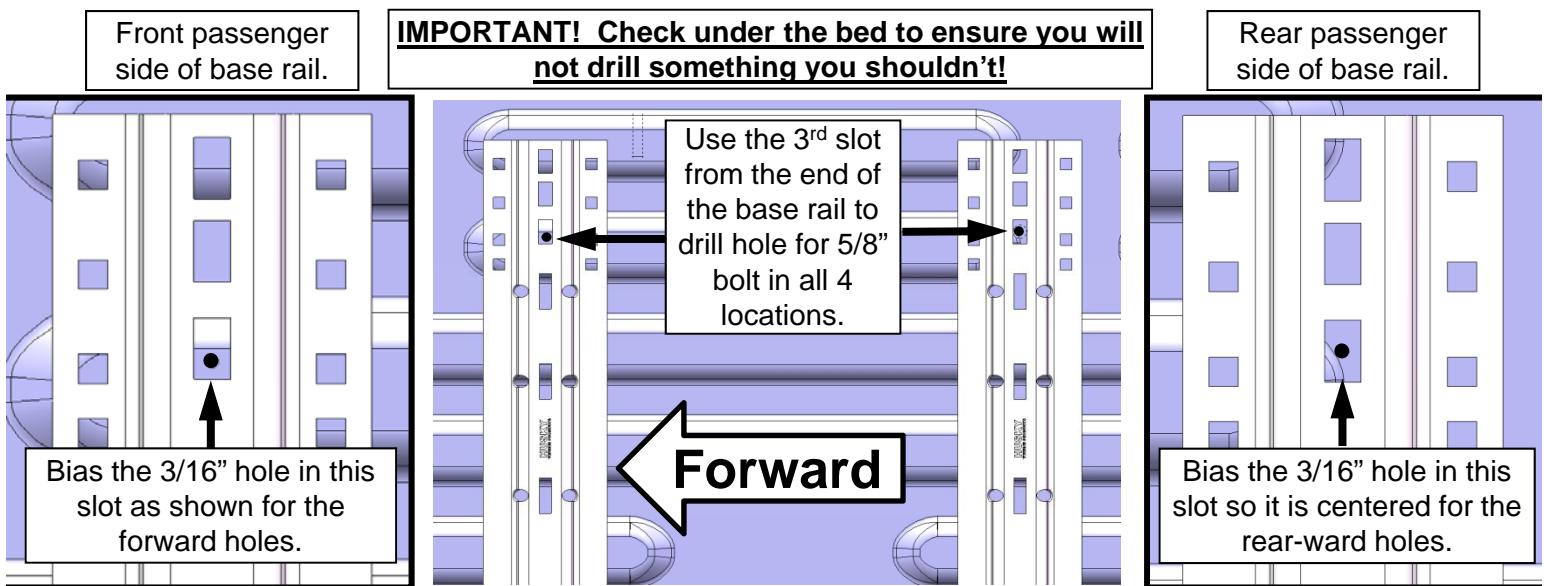

Figure 7
15. When hitch is correctly positioned in the bed and the bed rails are parallel. See Figure 1 for measurements. Mark four attachment points on the truck bed using the 5/8" rectangular slots at the ends of each bed rail as a guide. The use of a 5/8" transfer center punch will ensure that the marks are correctly marked on the bed floor. Check below the bed before drilling holes to see that all wiring, brake lines or other obstructions are moved out of the way and will not be contacted by the drill bit. See Figure 7.